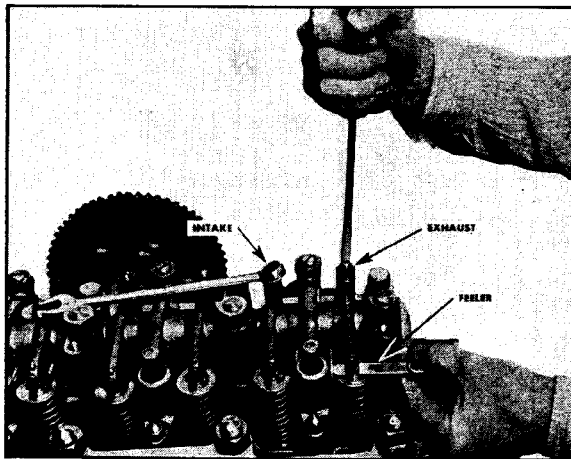

Fig. 12-95. Valve adjustment
4. With a feeler gauge of proper thickness for the valve being adjusted inserted between the rocker lever and valve stem, turn the adjusting screw down until the lever just touches the feeler gauge. Lock adjusting screw in this position with the jam nut. Fig. 12-95.